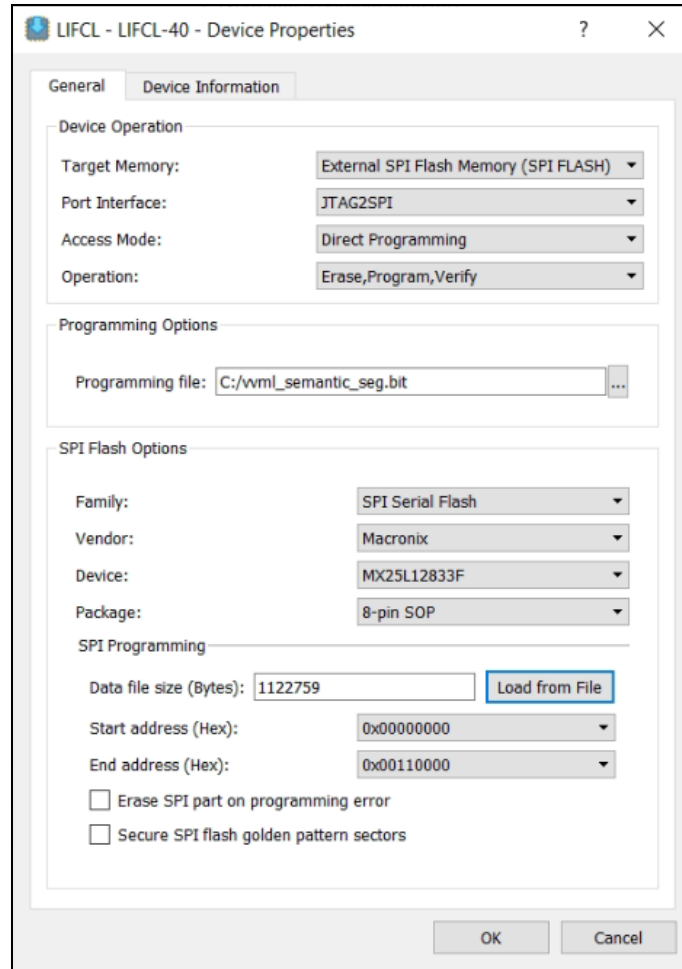

Figure 4.6. Radiant Programmer – Selecting Device Properties Options for CrossLink-NX Flashing
2. In the Radiant Programmer main interface, right click the CrossLink-NX Voice and Vision row and select Device Properties to open the Device Properties dialog boxes as shown in Figure 4.6.
5. For SPI Flash Options, make the selections in Figure 4.6 to select the Macronix 25L12833F device.